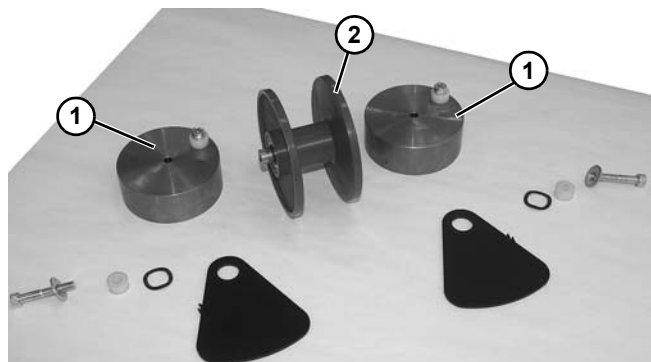

Figure 153
9. Remove two weights (**Figure 153, item 1**) from each side of pulley (**Figure 153, item 2**).